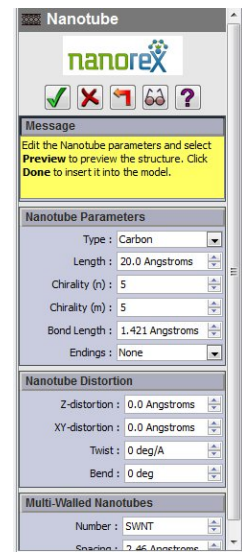

Figure 13
2. Create a carbon nanotube by clicking on the Nanotube button. This will open a panel in the side menu that will allow you to adjust the properties of the carbon nanotube. (Figure 13)